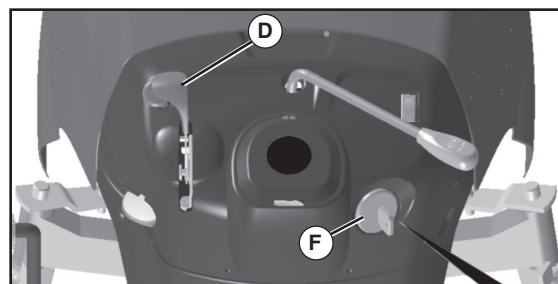

FIG. 8
### TO USE THROTTLE CONTROL (D) (See Fig. 8)